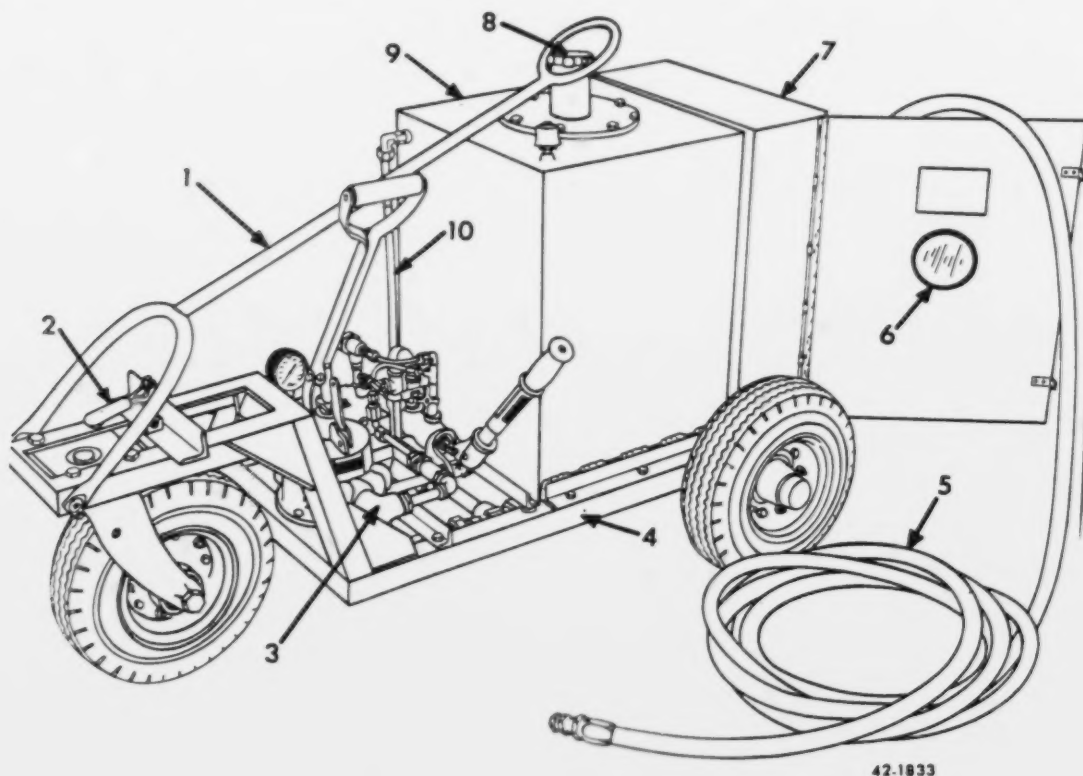
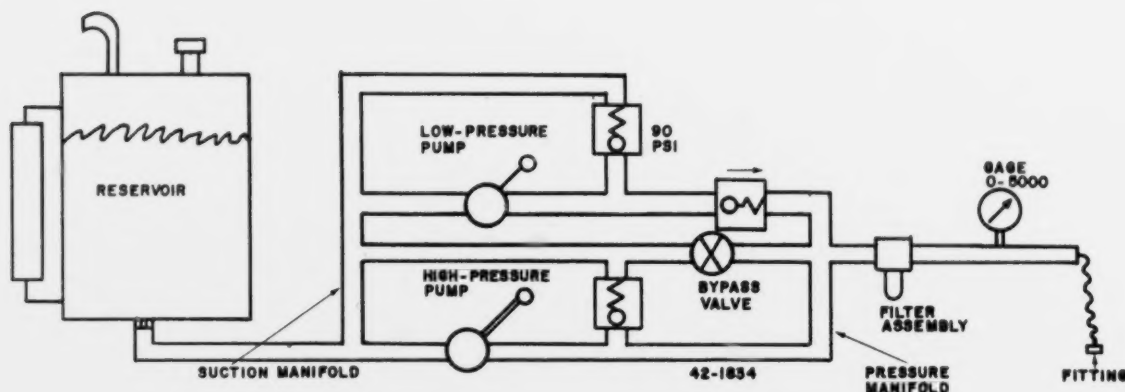

Figure 4-23. Hydraulic servicing cart.
Figure 4-24. Hydraulic servicing cart schematic.
Hydraulic Servicing Cart. Figure 4-23 shows a typical hydraulic servicing cart. It serves as a mobile maintenance unit for the servicing and bleeding of aircraft systems and components. This unit is mounted on three pneumatic tires, with a handle (1) for towing. The brake (2) prevents movement of the cart when applied, especially when parking the trailer on inclines. The hose (5) and tool storage box (7) is located at the rear of the unit and houses the hose when not in use. Inside the hose storage box is a place for coiling the hose, plus a tray for convenient retention of tools, fittings, and accessories pertinent to the operation of the unit. The reservoir (9) is capable of holding 19 gallons of fluid, with a sight glass tube (10) which indicates the fluid level. A reservoir filler cap (8) is located on top of the reservoir for easy servicing. The pumping assembly (3) contains two pumps, both of which draw fluid from the same reservoir. Now that you understand the basic construction of the servicing cart we will describe the operation. Refer to figure 4-24. In this schematic we will show you how simple this operation can be. Notice the two pumps; the low-pressure pump provides large volume displacement, while the high-pressure pump allows application of pressure up to 3000 psi. Both pumping systems are protected from overpressurization by a relief valve in their respective discharge lines. When pressure in either system exceeds the relief valve setting, the fluid is routed through the suction manifold to return to the reservoir. The pumps send fluid to a common pressure manifold, then out through a 5-micron filter assembly. The filter assembly will filter the fluid prior to flowing through the 25-foot hose, and into the system or component being serviced. Any pressure that builds up in the pressure